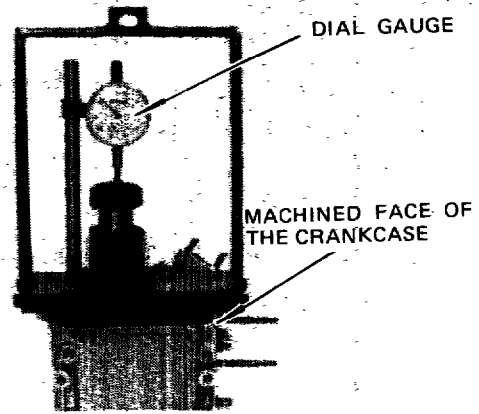

Fig. 12-18
*Shown in Fig. 12-18. is the method to measure the side clearance of the crankshaft. According to this method, measure the clearance between the machined face of the crankcase and the adjusting collar. The machined face of the crankcase is mounted with packing so it is necessary to set the clearance properly by allowing for a packing thickness of 0.22mm.